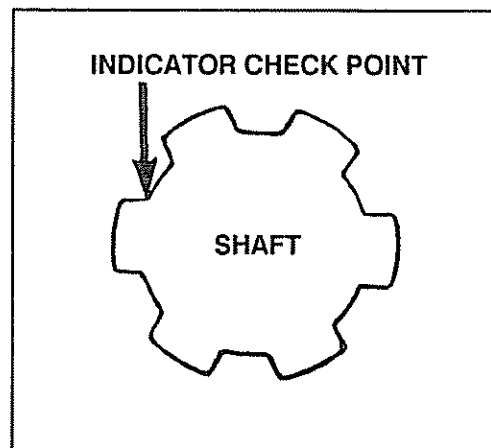

FIGURE 26
2. Gear backlash check procedure see Figure 26. Set dial indicator at marked point at bottom of spline, then while holding bottom shaft so it will not rotate; rotate the input shaft back and forth noting extreme indicator readings. If total indicator deflection reading does not fall between .002 to .006 then shims will have to be added to increase backlash or deleted to decrease backlash.